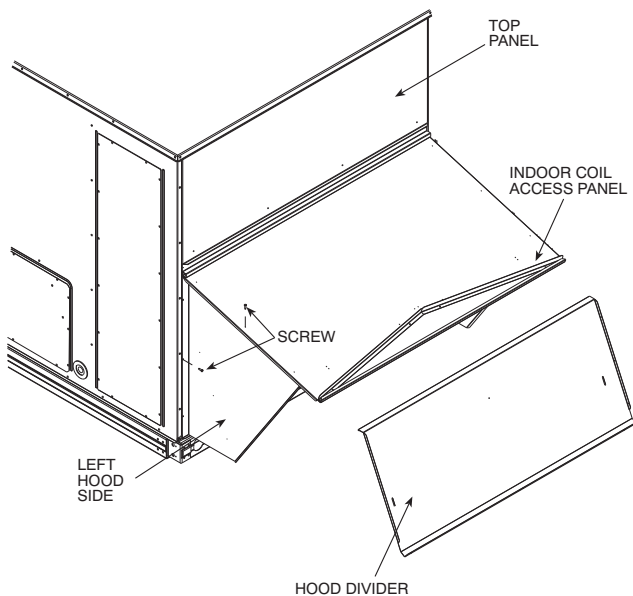

Fig. 30 — Economizer Hood Construction (Size 16)
2. Swing out indoor coil access panel and insert the hood sides under the panel (hood top). Be careful not to lift the panel too far as it might fall out. Use the screws provided to attach the hood sides to the hood top. Use screws provided to attach the hood sides to the unit. See Fig. 30.
4. Insert the hood divider between the hood sides. See Fig. 30 and 31. Secure hood divider with 3 screws on each hood side. The hood divider is also used as the bottom filter rack for the aluminum filter.